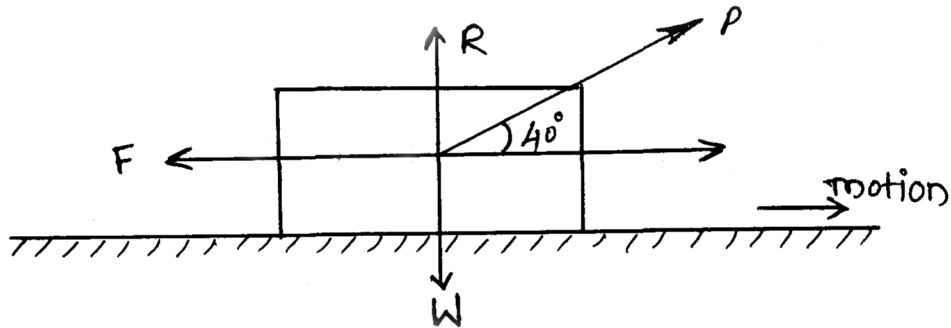

Fig. No. 5.
- d) A body weighing 12kN is lying on a horizontal plane for which  $\mu = 0.70$  as shown in Fig. No. 5. Determine normal reaction, limiting force of friction, horizontal force required to move it and angle of friction.